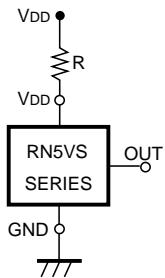

FIG.9
1. When RN5VS $\times\times$ C (CMOS Output) is used in FIG. 9, this IC may oscillate by the through-type current at the detection when impedance is connected between Power Source VDD and RN5VS VDD Pin. When RN5VS $\times\times$ A (Nch Open Drain Output) is used in FIG. 9, and R becomes excessively large, Detector Threshold may be varied because of the voltage drop of the supply current in the IC itself.